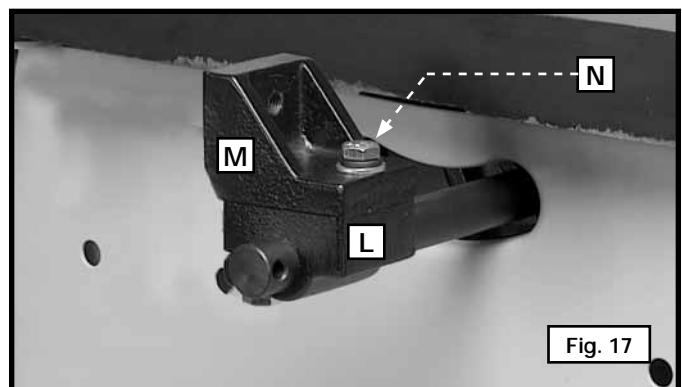

Fig. 17
- Align the hole in the upper splitter bracket (M) Fig. 17 with the hole in the lower splitter bracket (L). Place a 5/16" lockwasher, then a 5/16" flat washer on a 5/16-18 x 1" hex-head screw (N). Insert the screw (N) through the hole in the upper splitter bracket (M) and thread the screw in the lower splitter bracket (L).